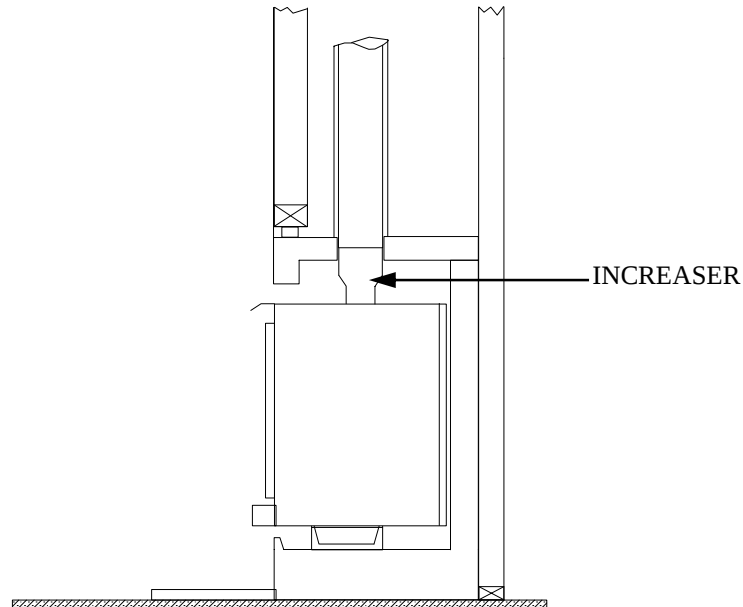

FIGURE 2
1. The preferred method is to use an increaser made of 24 ga. (minimum) stainless steel to go from 6" inside diameter to exact diameter of fireplace throat/chimney. (See Figure 2).